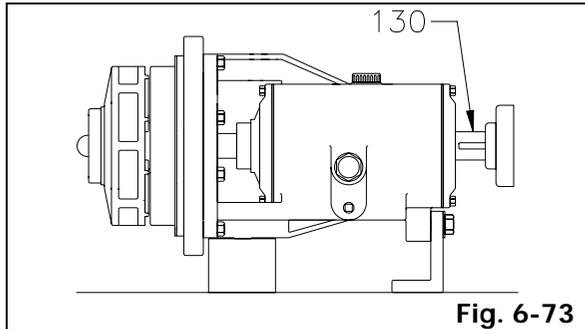

Fig. 6-73
1. Install coupling or pulley to shaft (130) until coupling or pulley hub reach the hub location marking which have been made on shaft (130) during disassembly (Fig. 6-73).